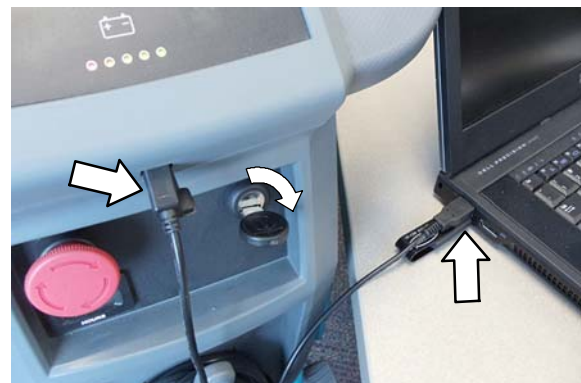

Fig. 23
- Connect the USB cable to computer and to the USB port on machine as shown. Turn the key switch to the on position (Figure 23).